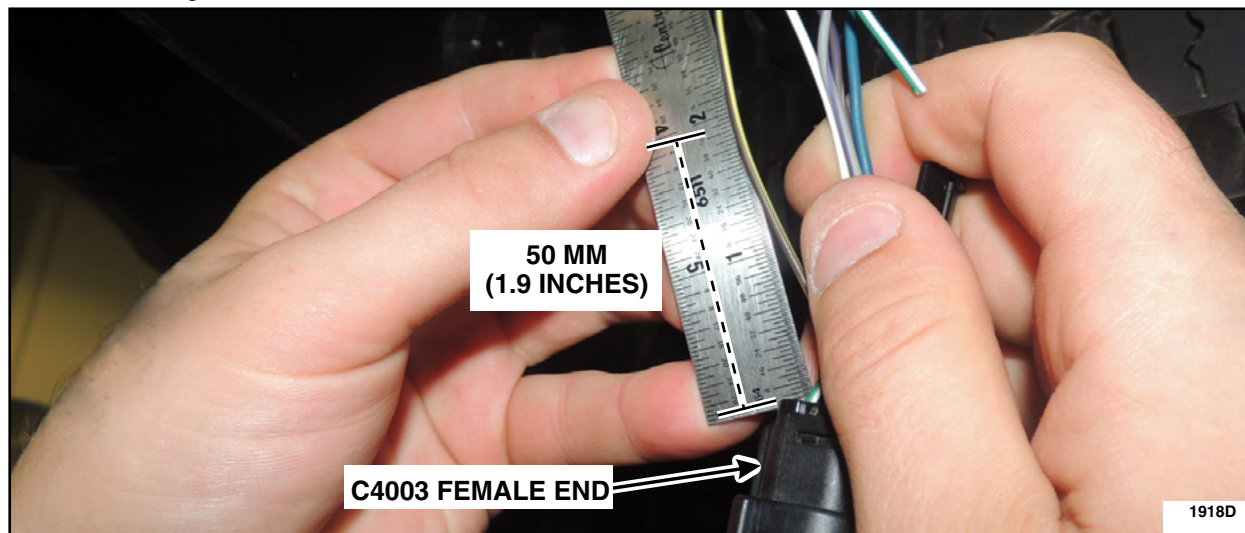

FIGURE 6
- Cut the Brown-Yellow (BN-YE) wire (cavity 2) 50 mm (1.9 in) from the back side of the C4003 female end. See Figure 6.